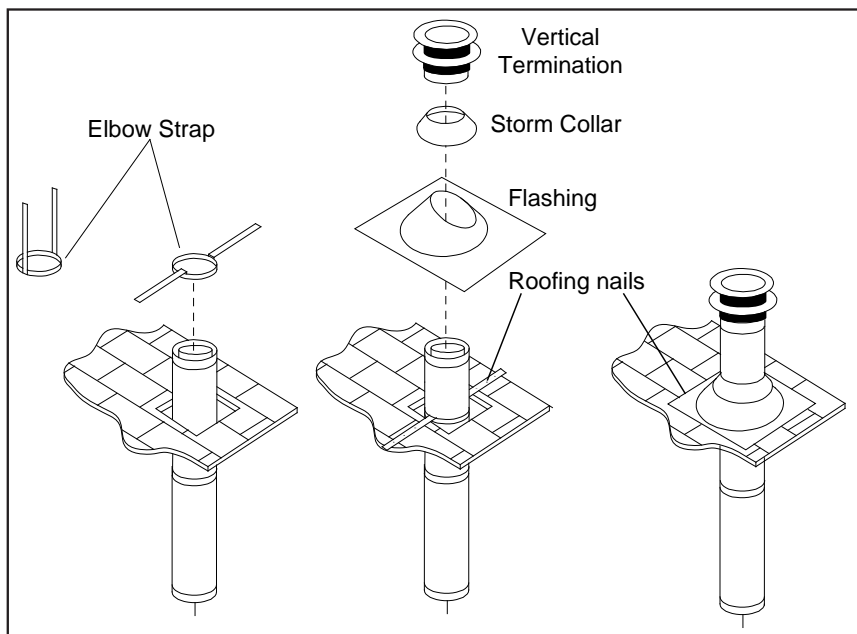

Figure 30. Vertical Vent Termination
- STEP 6.** Once the pipe sections have been joined, and run up through the hole in the roof, slip an elbow strap over the exposed sections, bend the support straps outwards, and push the elbow strap down to the roof level, as shown in Figure 30. Tighten the clamp around the pipe section. Use a level to make sure the pipe is truly vertical. With roofing nails, secure the support straps to the roof. Seal the nails holes heads with non-hardening mastic. Trim the excess length of the support straps that extend out beyond the edge of the flashing.
- STEP 9.** Slip the storm collar over the pipe, and push it down to the top of the roof flashing as shown in Figure 30. Use the non-hardening sealant around the joint between the pipe and the storm collar.